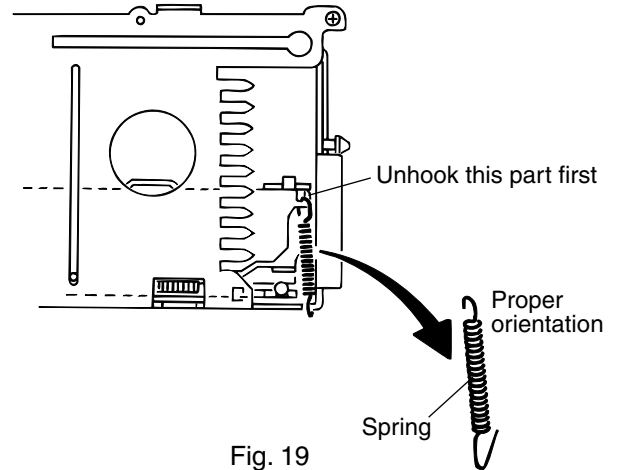

Fig. 19
■ Lifter unit (See Fig.19 and 20)